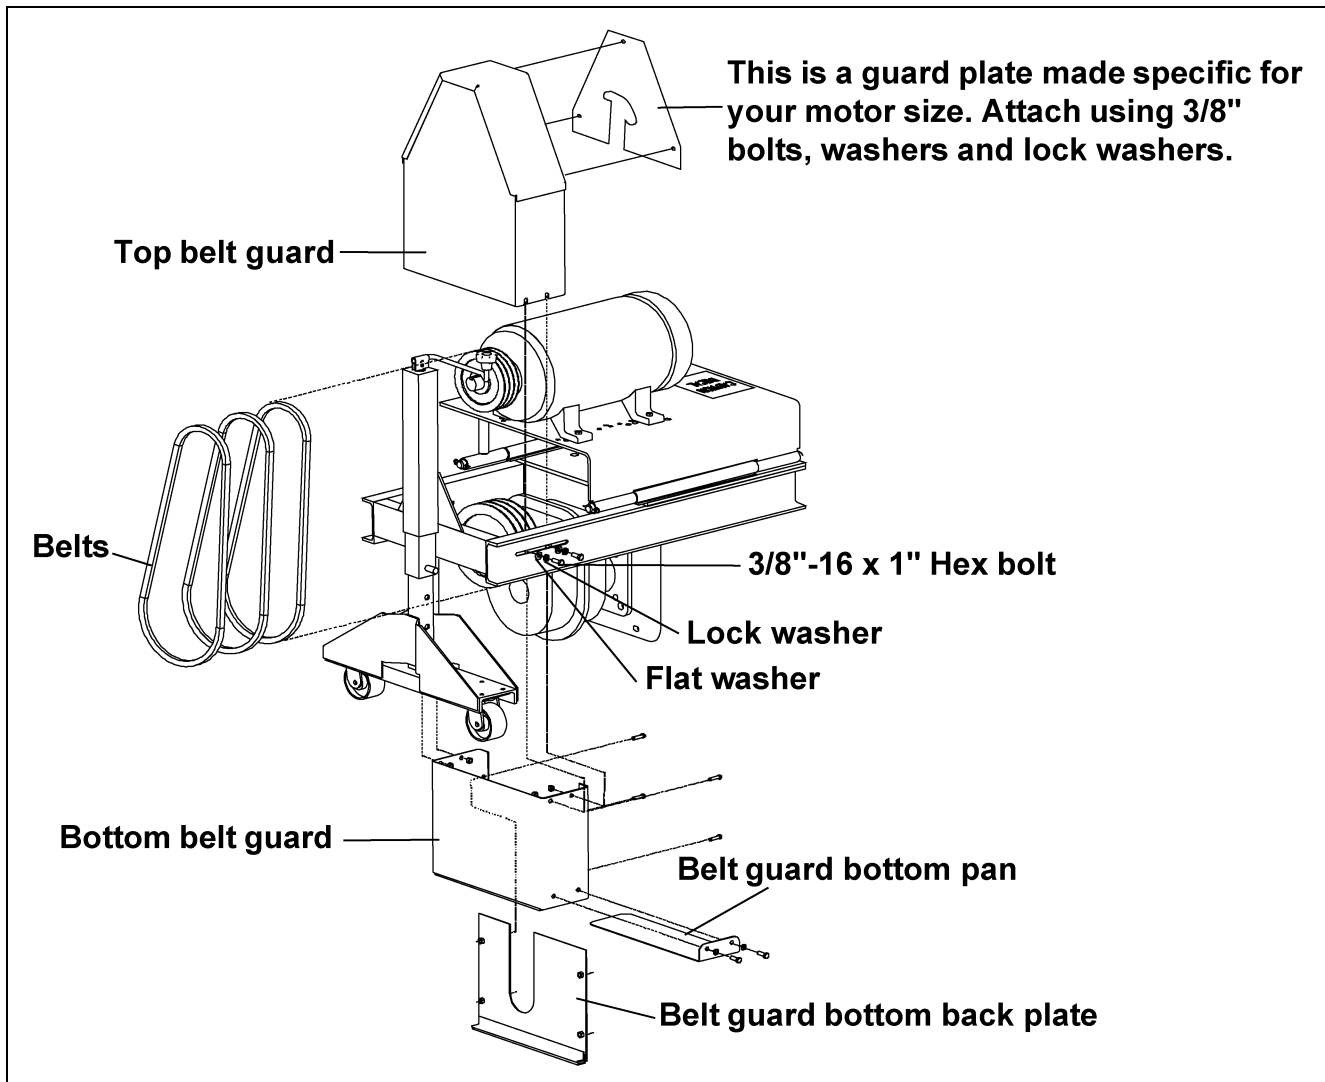

Figure 5AH
- H. Slide the top belt guard over the bottom belt guard as shown in Figure 5AH and tighten bolts.